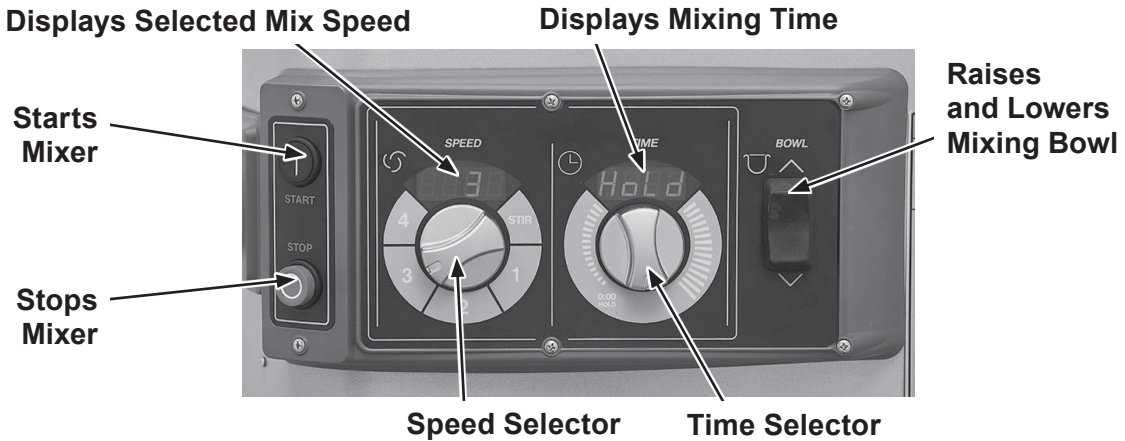
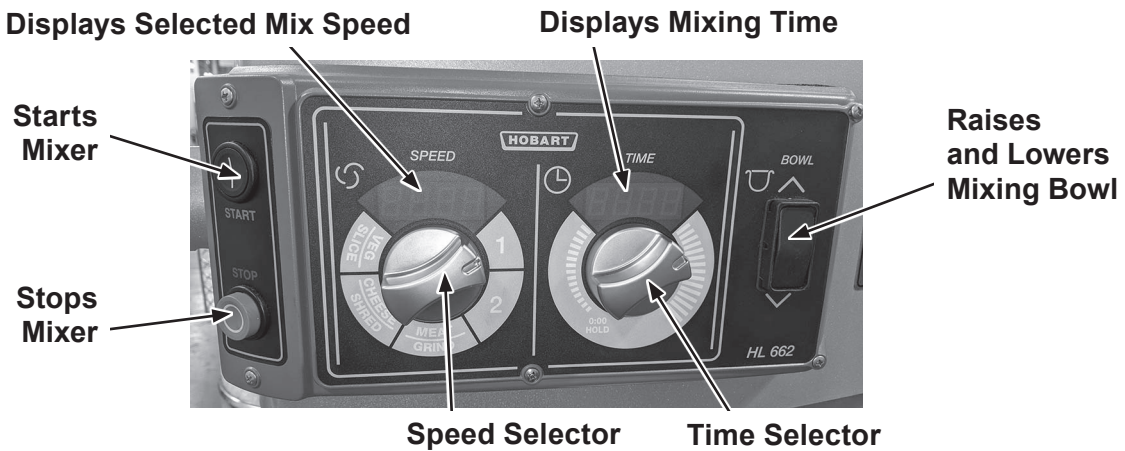
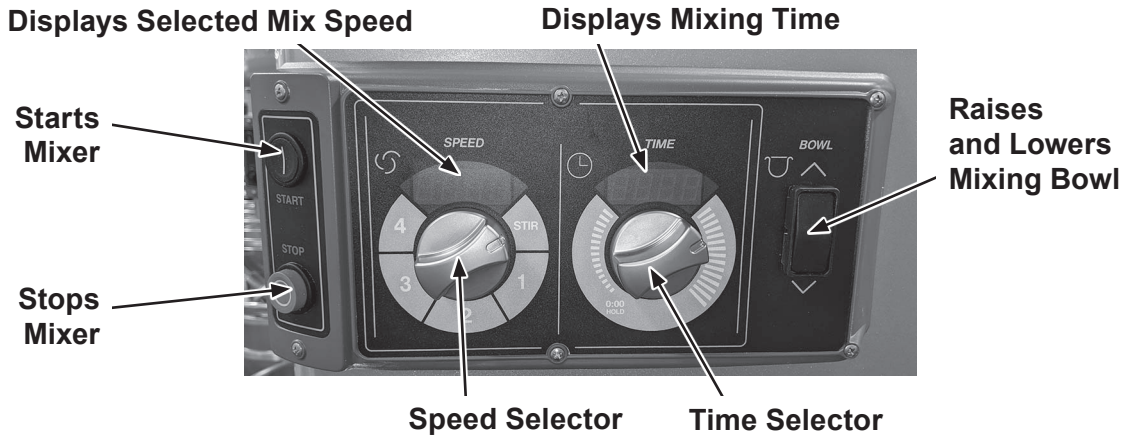

Fig. 7
Fig. 8
Fig. 9
1. Fully lower the bowl support by pressing and holding the down arrow on the bowl switch (Fig. 7, Fig. 8, and Fig. 9).
1. Lower the bowl by pressing and holding the down arrow on the bowl switch (Fig. 7, Fig. 8, and Fig. 9).
2. Lower the bowl by pressing and holding the down arrow on the bowl switch (Fig. 7, Fig. 8, and Fig. 9)